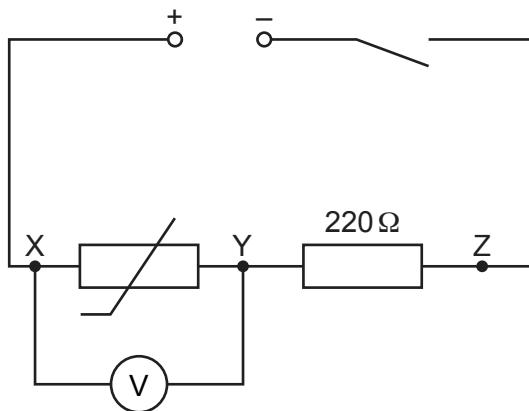

Fig. 2.1
- sufficient connecting leads to assemble the circuit shown in Fig. 2.1 (see Note 5)
- 5 The supervisor must assemble the circuit shown in Fig. 2.1 for the candidates in advance of the examination. The thermistor must be placed inside the beaker. Terminals X, Y and Z must be labelled. The connecting leads to the thermistor must be long enough to allow the thermistor to rest on the bottom of the beaker, which must be at least 30 cm distant from the rest of the circuit.
The circuit must be restored to its original state as shown in Fig. 2.1, with the switch open.